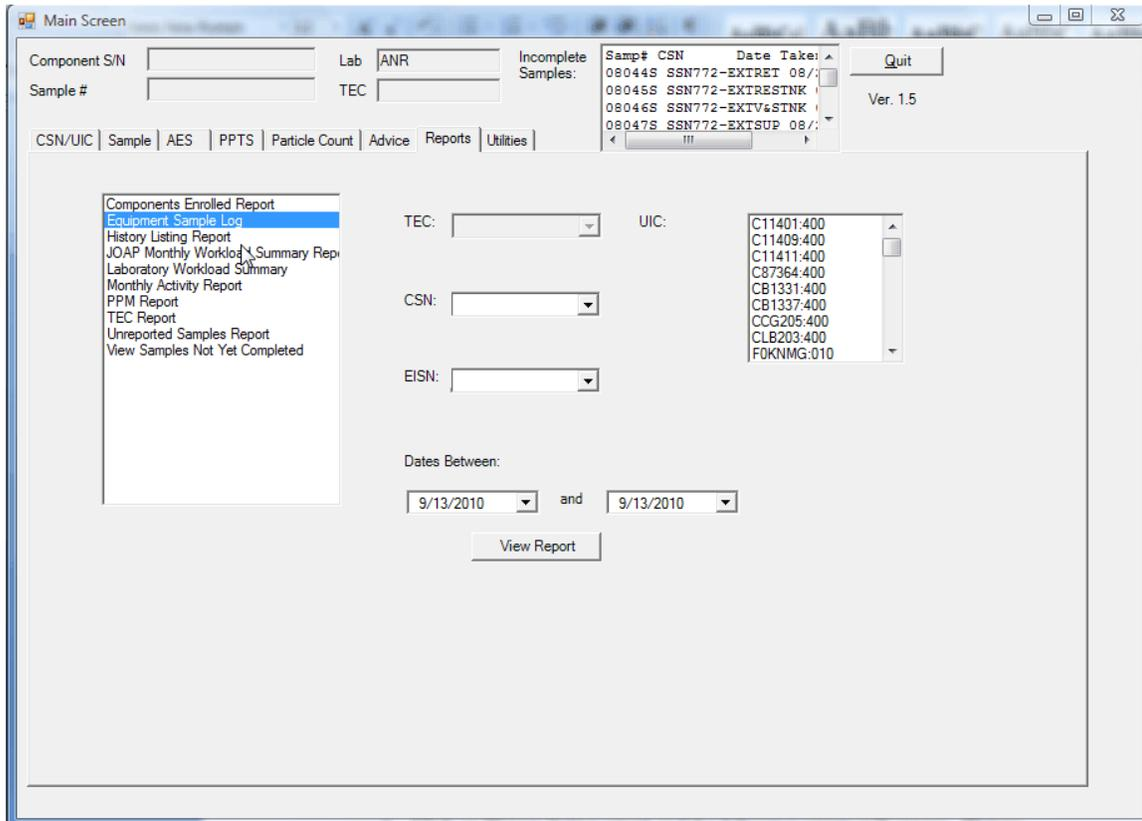

Figure 44. Equipment Sample Log
- b. Equipment Samples Log. Click on equipment sample log and the following screen will appear (Figure 44).